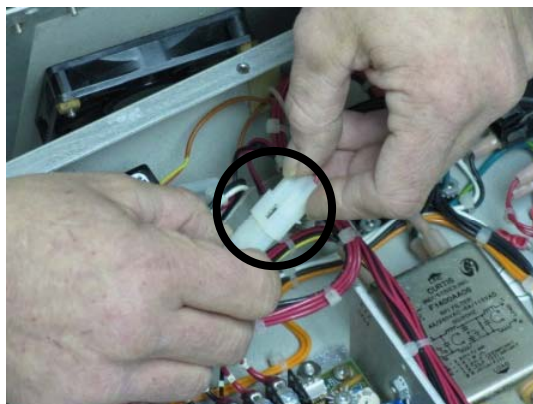

Figure 2
- 3) Unplug the fan and set the cover aside. Fig.2